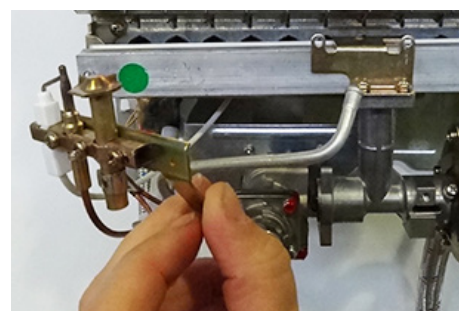

Fig. 13
- Turn on the left the pilot group (Fig. 13)